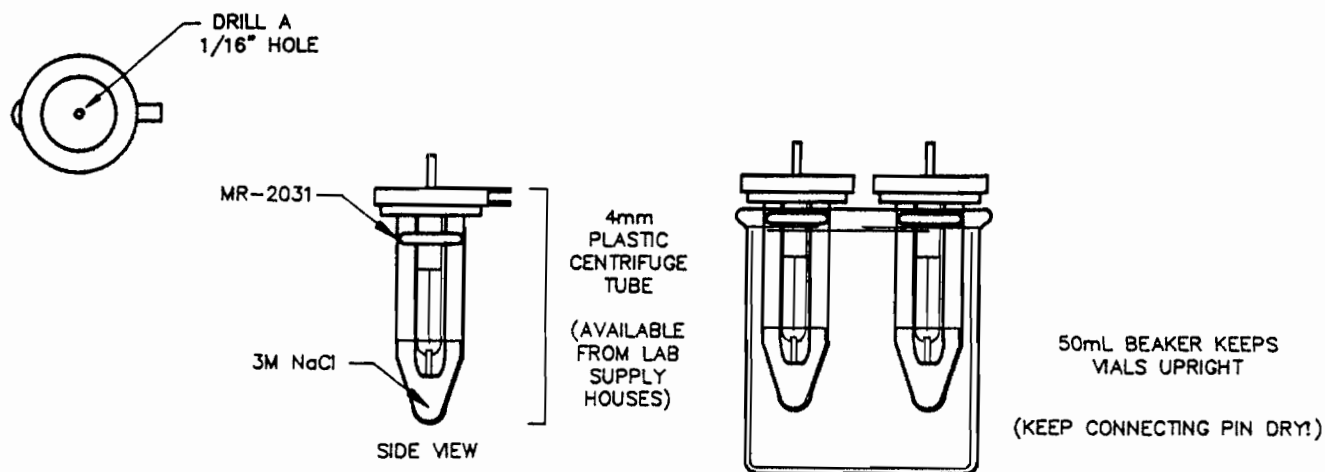

Figure 5-5. Storage of the RE-4 Reference Electrode
4. Disconnect electrodes (thin-layer cell and reference). Store reference as recommended in the Instructions poster shipped with the instrument (Figure 5-5). Rinse off the working electrode block with deionized water, air dry, and store it in the plastic box used in shipping.